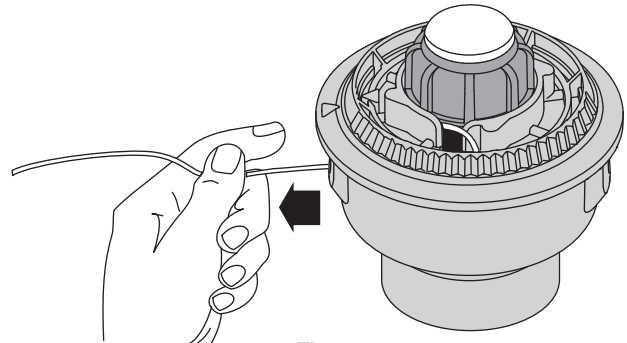

Fig. 15
6. Pull the line from the outer spool until the line is tight against the inner reel (Fig. 15).